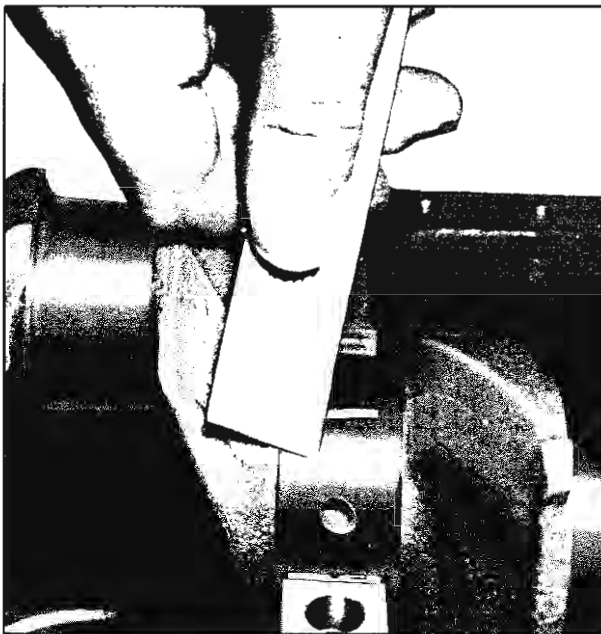

Fig. 50—Measuring Plastigage
5. Without removing the Plastigage, check its compressed width (at the widest point) with the graduations on the Plastigage envelope (fig. 50).